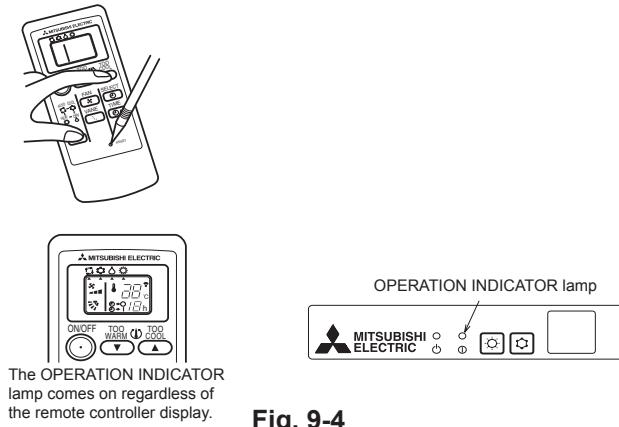

Fig. 9-4
9.3.2. Wireless remote controller [SLZ-KA-VAL(2) only] (Fig. 9-4)
- ① Turn ON the power.
- ② While pressing both the MODE SELECT button and TOO COOL button on the remote controller at the same time, press the RESET button.
- ③ Release the RESET button.
- ④ Release the other two buttons. After three seconds, all items in the LCD are displayed.
- ⑤ Transmit the signal of remote controller by pressing the OPERATE/STOP (ON/OFF) button on the remote controller.